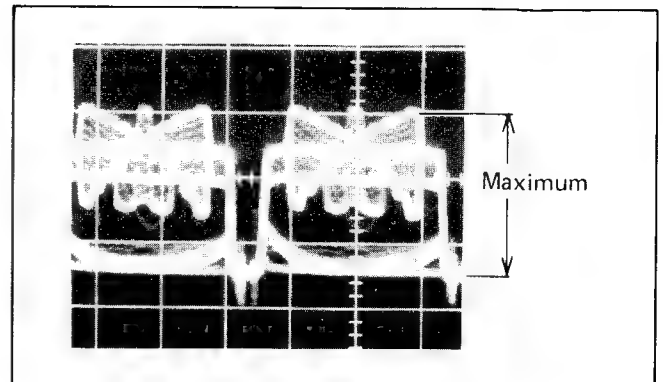

Fig. 11
- Adjust the bias control, VR332, so that the YL signal is maximized, as shown in Fig. 11.